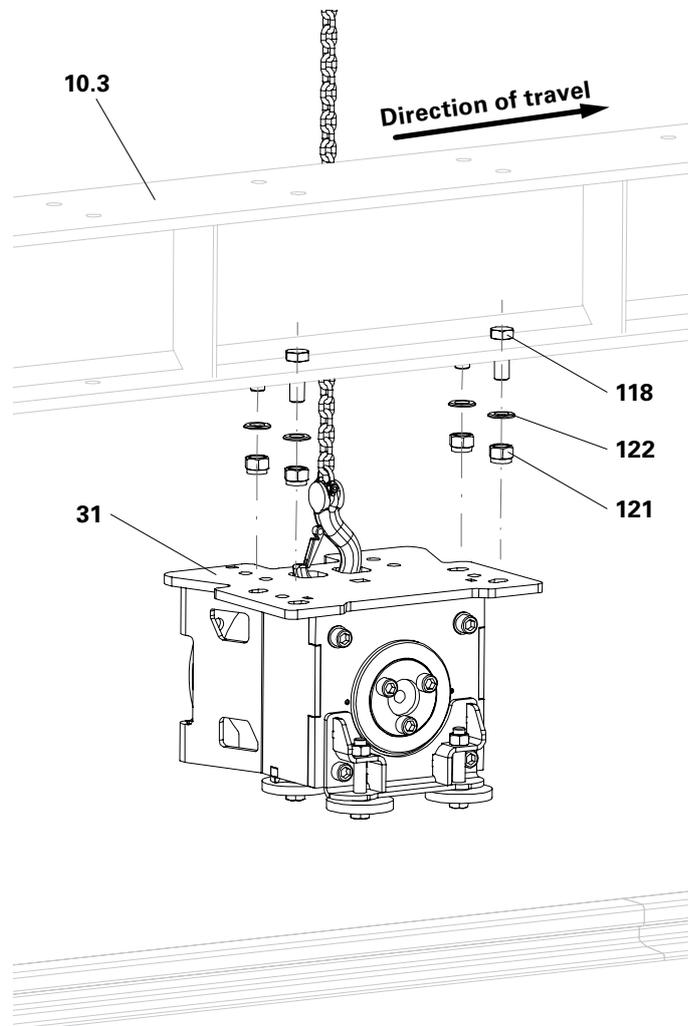

Fig. B4.08
1. Attach the wheel block (31) to the crane lifting gear and fly in.
3. Fix the wheel block on the Base Beam with bolts M24x80 (118), washers M24 (122) and self-securing nuts M24 (121).
- (Fig. B4.08)